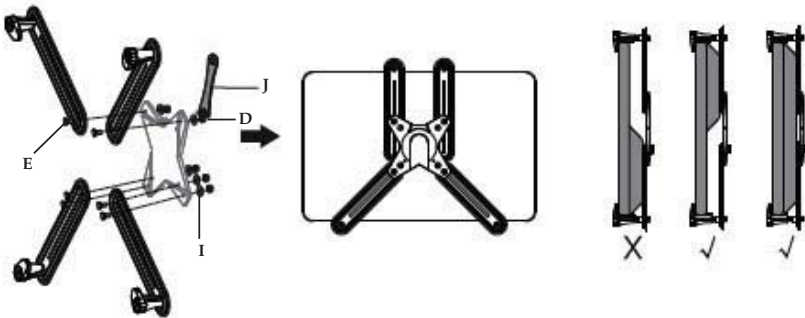

Figure 4
1. Use Bolt (E), Washer (I) with Nut (D) and tighten using Wrench (J), see Figure 4. **Note:** Do not fully tighten until instructed to do so in Step 3.